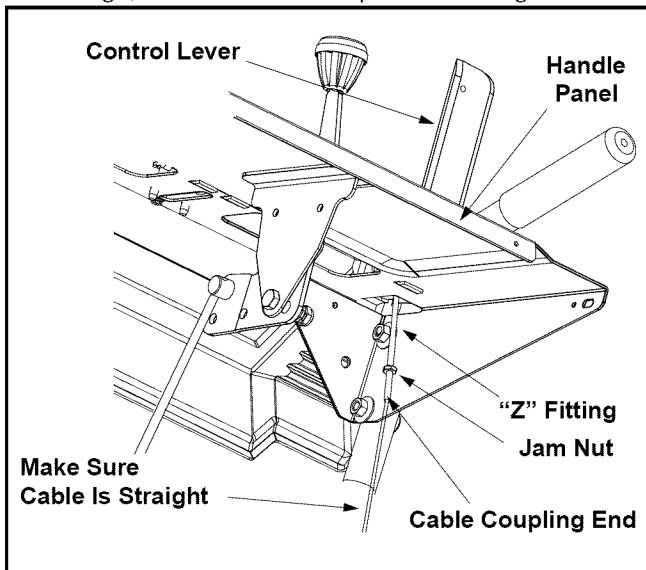

Figure 7
- Thread the jam nuts all the way up each of the "Z" fittings, toward the handle panel. See Figure 7.
- Thread the jam nuts all the way up each of the “Z” fittings, toward the handle panel. See Figure 7.